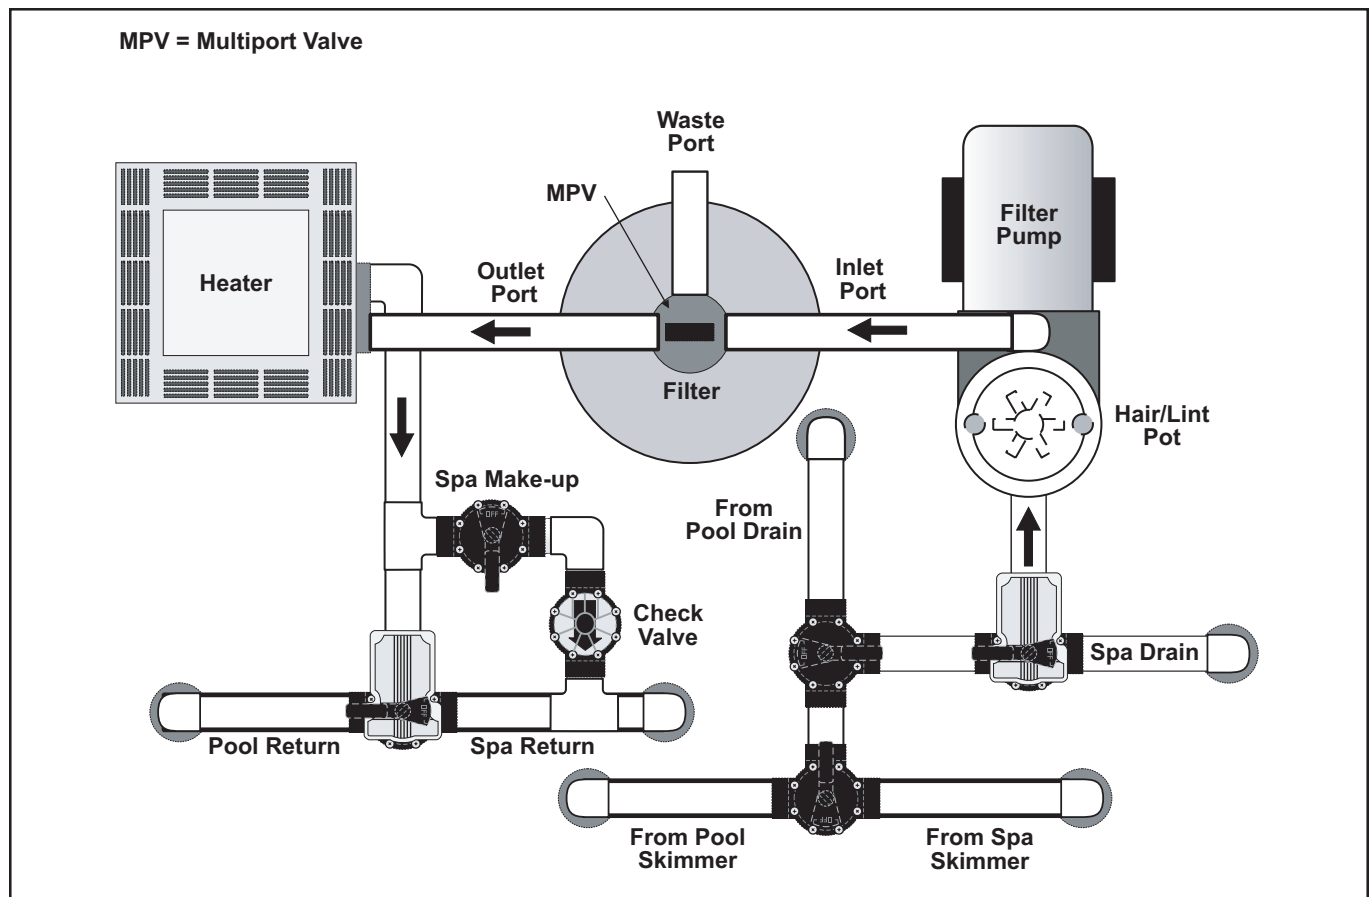

Figure 5. Basic Pool/Spa Combination Plumbing
- Place on the concrete pad, lined up with the inlet/outlet pipes (see Fig. 5).